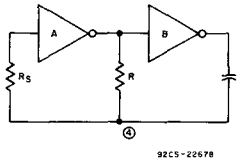
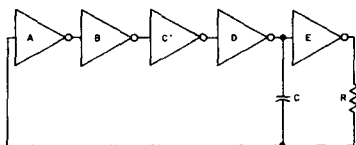

Fig. 4—RC-oscillator with the addition of R_S .
Fig. 8 - CD4047A oscillator section
The negative features of the input protection circuit can be partially compensated for by the addition of a resistor, R_S , in series with the input protection circuit, as shown in Fig. 4. Although the input inverter A is still clamped at one diode drop above V_{DD} or one diode drop below V_{SS} , the waveform at point (4) is allowed to swing well above V_{DD} and below V_{SS} . The larger swing reduces the dependency of transfer-voltage variations upon stability; the variable characteristics of the input protection circuit and their effect upon stability are greatly reduced. An analysis of this circuit is presented in
The RCA-CD4047A is an integrated RC oscillator that eliminates most of the disadvantages of the discrete circuits previously discussed. The primary reason for this improved performance is the special input-protection circuit which allows the capacitor charging waveform to swing above V_{DD} and below V_{SS} without the need for an external resistor. This circuit, shown in Fig. 8, has the same time period and stability as the circuit in Fig. 4 for the case where the value of R_S is infinite. However, a resistor is eliminated, as well as the disadvantages of a time constant caused by the resistor.
An additional advantage of the CD4047A is a reduction in power dissipation as compared to the discrete multivibrators discussed previously. Inverter A in Fig. 8 is designed with high-impedance components that limit power dissipation during the time that the inverter operates in the middle of its transfer region. Four additional inverters are used to gradually shift from a very-high-impedance inverter at the input to a very-low-impedance driver in series with the external timing resistor. Calculations for power dissipation and a comparison of P_{diss} for the CD4047A and a discrete oscillator are presented in Appendix D; the result is